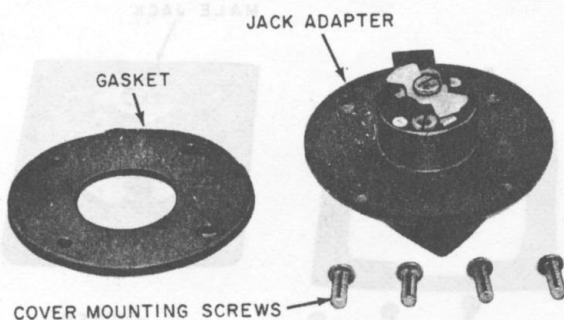

Fig. 1—B Weatherproof Female Jack Adapter
- Adapter, Jack, Female, Weatherproof, B (for use with existing KS-8421 jack housing on docks, Fig. 1 and 2)
2.02 The B weatherproof female jack adapter (Fig. 1 and 2) is mounted on an existing KS-8421 jack housing after the old jack and front plate are removed. It will receive the male plug of the B weatherproof cord to provide service to recreational vehicles or boats. A spring-loaded hinged cover protects the jack from weather when
Note: If existing KS-8421 jack housing at utility pad is to be used, one B weatherproof female jack adapter (Fig. 1) is required instead of the B female jack, and only one B outlet box is required.
Note: If existing KS-8421 jack housing at dock is to be used, one B waterproof female jack adapter (Fig. 1 and 2) is required instead of the B weatherproof female jack and the B outlet box is not required.